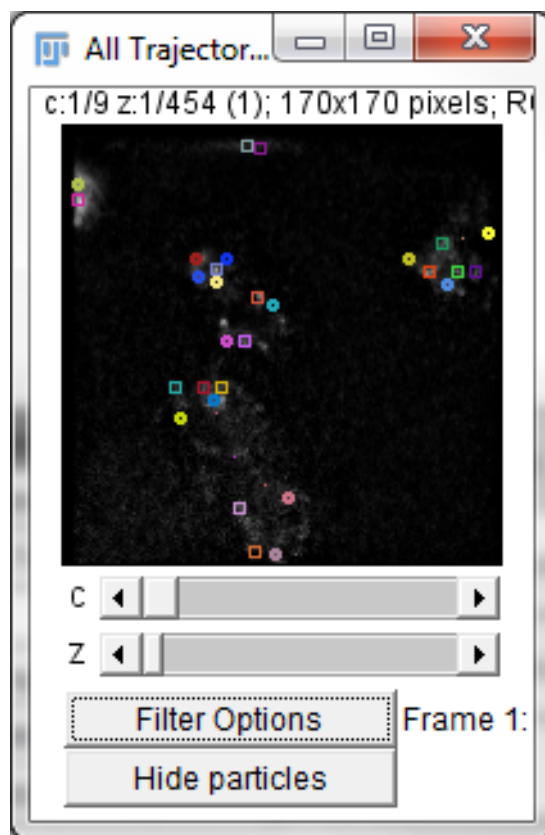

Figure 13. Mosaic Visualize trajectories window
The window will report the total number of tracks that were produced. To view a visual representation of the tracks, click the “Visualize All Trajectories” button (1), as shown in Figure 13.